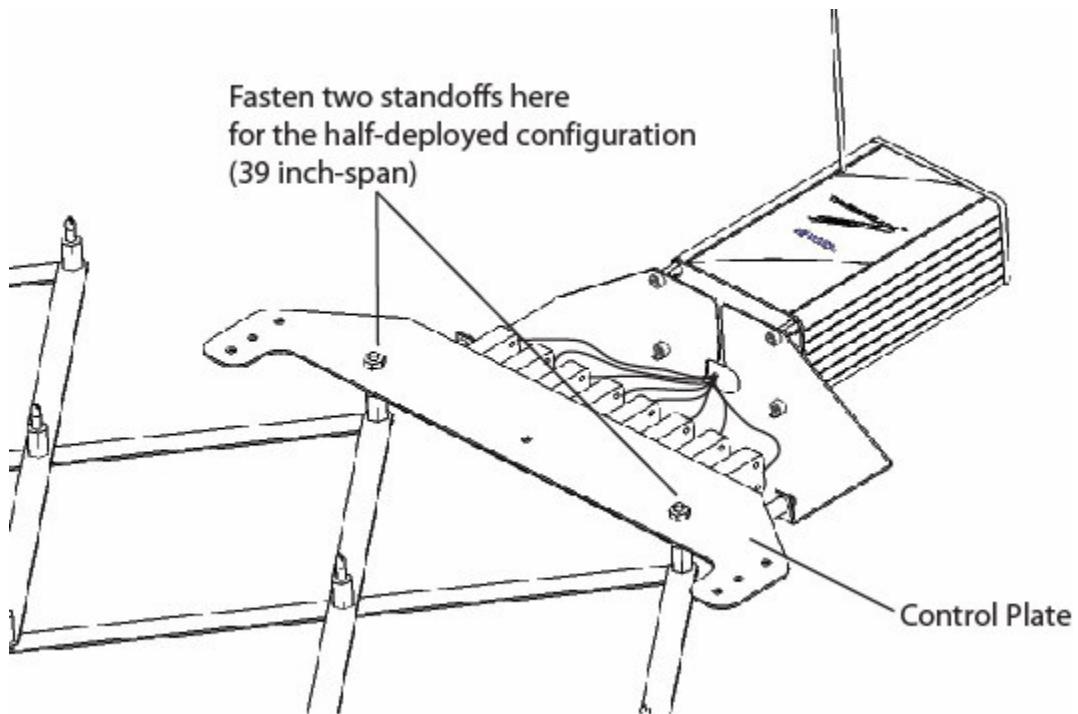

Figure 4. TC-Bridge, half-deployed (39" span)
The span of the TC-Bridge is controlled by the positions of the two tall standoffs (B&C) as shown in Figures 4 and 5. There are five aligned open holes on the control plate of the TC-Bridge. By positioning standoffs B & C such that they engage two of the open holes, the TC-Bridge may be set for either a 39" (99cm) span (half-deployed) or for a 60" (152.4cm) span (fully deployed).
6. Rotate the TC-Bridge spreader mechanism such that the standoffs are again pointing upward and engage the standoffs (B&C) with the holes in the control plate as indicated in Figures 4 & 7.
7. Re-attach the spreader mechanism to the control plate using the two (2) wing nuts that you removed in Step 1.